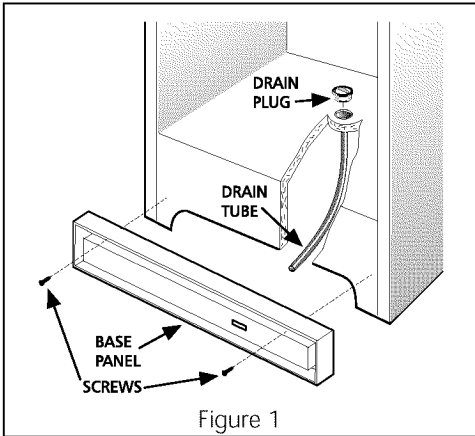

Figure 1
- **On upright models** with a defrost drain (Figure 1), remove drain plug on the inside floor of the freezer by pulling straight out. To access external drain tube on models with a base panel, first remove the two screws from the base panel. Locate the drain tube near the left center under the freezer. Place a shallow pan under the drain tube. Defrost water will drain out. Check pan occasionally so water does not overflow. A  $\frac{1}{2}$  inch garden hose adaptor can be used to drain the freezer directly into a floor drain. If your model is not equipped with an adaptor, one can be purchased at most hardware stores. Replace the drain plug when defrosting and cleaning are completed. If the drain is left open, warm air may enter freezer.